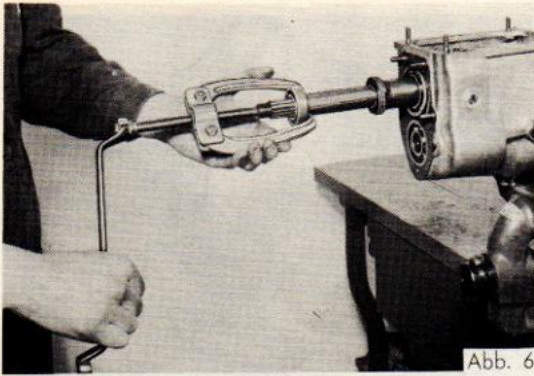

Abb. 6
7. Draw tailshaft bearing from mainshaft (Use standard commercial type drawer) (Fig.6).